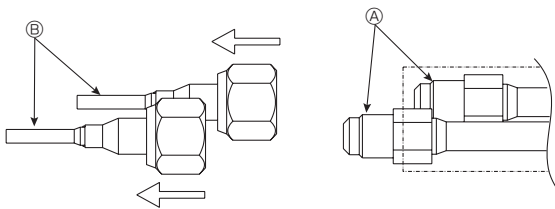
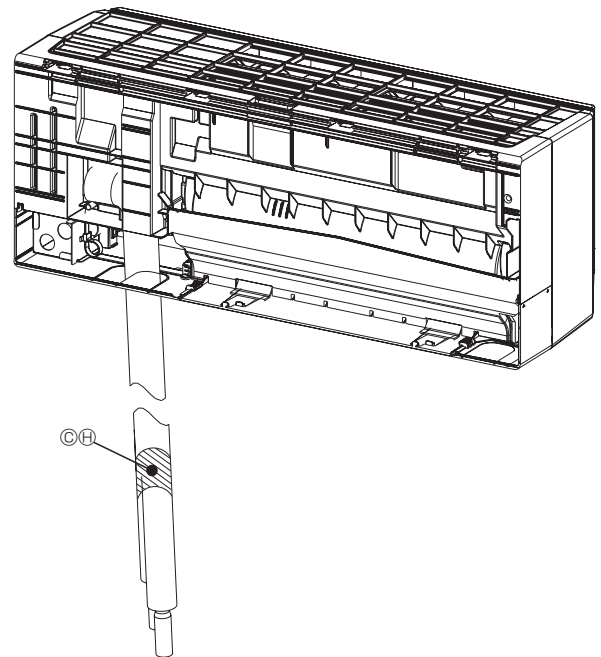

Fig. 3-9
Fig. 3-13
3.3.3. How to install connecting pipes Ⓔ (For WL04/06/08 model) (from Fig. 3-9 to Fig. 3-13)
(Water pipe In and Water pipe Out) (Fig. 3-9)